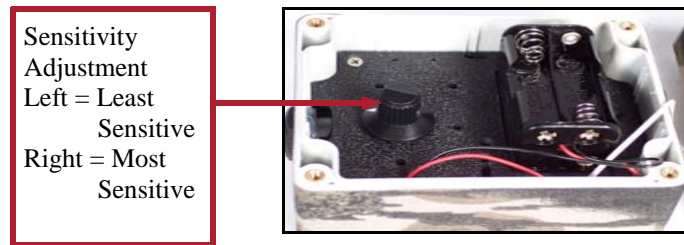

Figure 2
2. Remove (4) screws from the lid of the transmitter housing.
3. Set the sensitivity by turning the knob. The far left allows for the least sensitive while the far right is a maximum setting. (Only PIR Sensor, See Figure 2)
4. Insert (4) "AA" alkaline batteries into the transmitter's battery holder. To turn power off, simply remove the batteries from the battery holder.